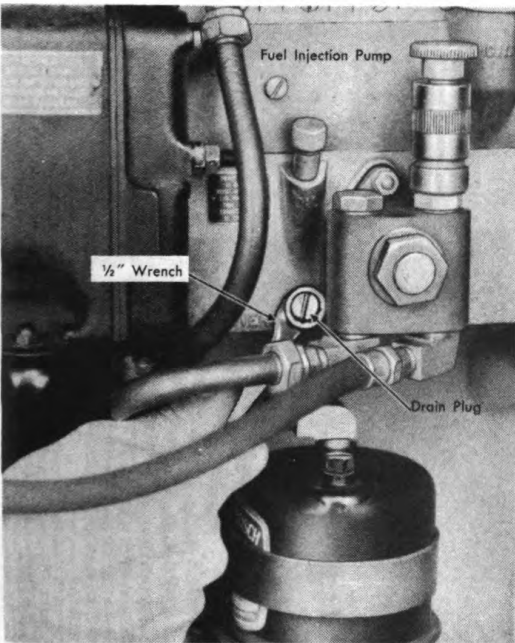

Figure 20. Draining oil in Fuel Pump.
4. Change the oil in the governor and in the fuel injection pump. See Figures 20 and 21.